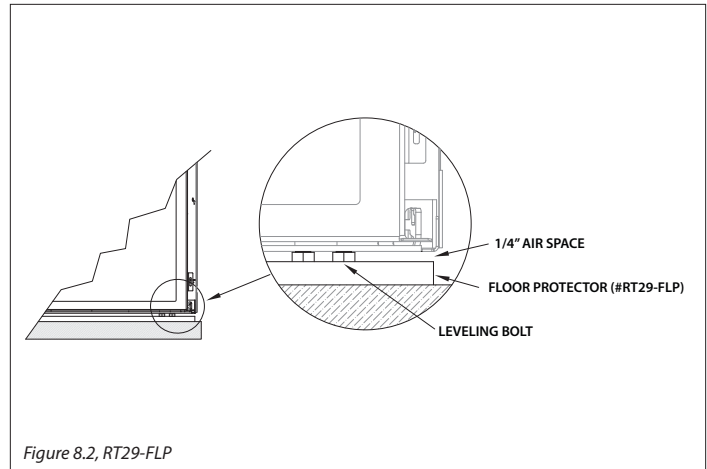

Figure 8.2, RT29-FLP
- Combustible Mantel Projections - As referenced in Figure 8.2, the 9" (229mm) mantel can start at 8-1/4" (210mm) above the top of the appliance. Mantel projections can increase 1" (25mm) of depth for every 1" (25mm) of height starting at the 9" (229mm) mantel.
- If you have combustible flooring underneath the fireplace, then the floor protector (Part # RT29-FLP) must be installed and there must be a total of 3/4" of space between the insert and the floor. See Figure 8.2.
See Figure 8.2 above for an enhanced view of the RT29-FLP